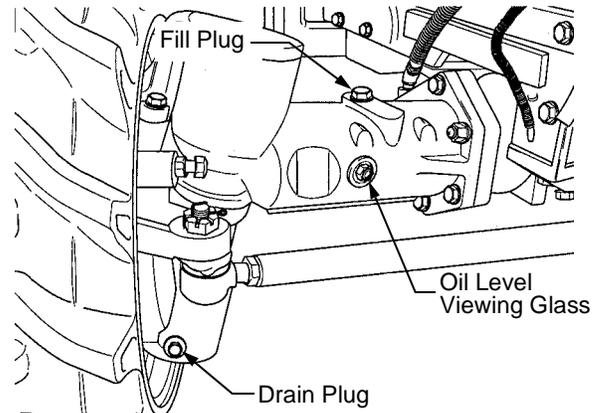

Figure 63
To check the front axle oil level, a viewing glass is provided in the axle. The oil level should be approximately half way up in the viewing glass. See Figure 63.
Add oil through the oil fill port on top of the axle. Refer to Figure 63.
- Clean the area around the fill plugs on both the left and right axle housings to prevent dirt or debris from entering the axle housing. Then remove the oil fill plugs from each side of the front axle. Refer to Figure 63.
- Place a suitable container below the drain plugs, then remove the plugs from the front axle and the final drives inside both wheels. Refer to Figure 63.